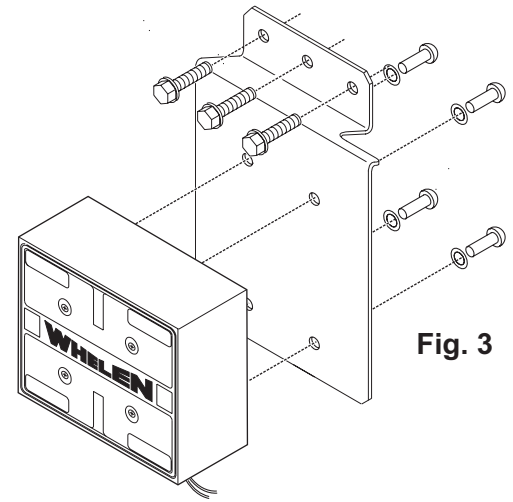

Fig. 3
1. Secure the siren to the bracket using the supplied screws and washers (Fig. 3).